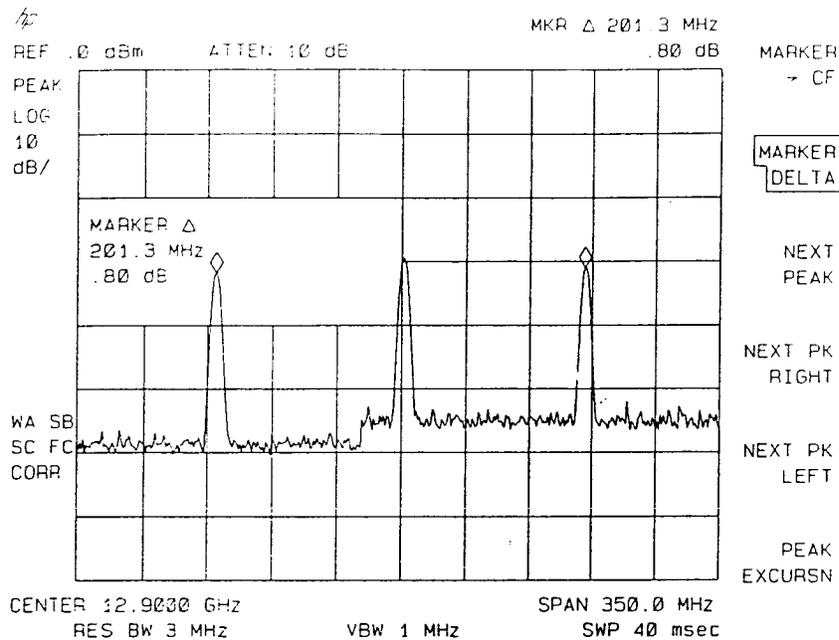

Figure 2-31. Harmonic Locking Off
7. Press **MARKER DELTA**. Use **NEXT PK RIGHT** to place a marker on the farthest peak to the right. The marker readout displays the frequency and amplitude difference between the two comb teeth. See Figure 2-31.